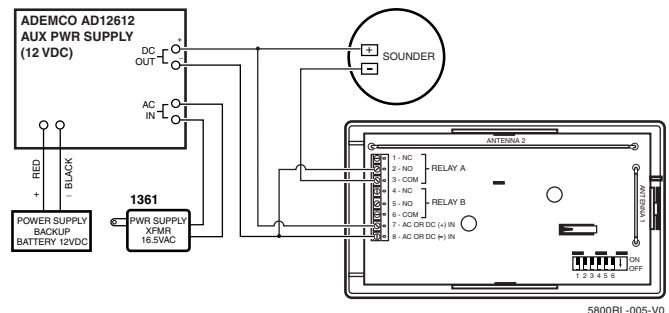

Figure 3. Typical Sounder Wiring Installation
4. Connect relay and power wiring to the 5800RL's terminals. Refer to Figure 3 for a typical relay application.
The 5800RL can be powered from either an AC transformer or DC power supply external power source connected to terminals 7 and 8 (see Figure 3).